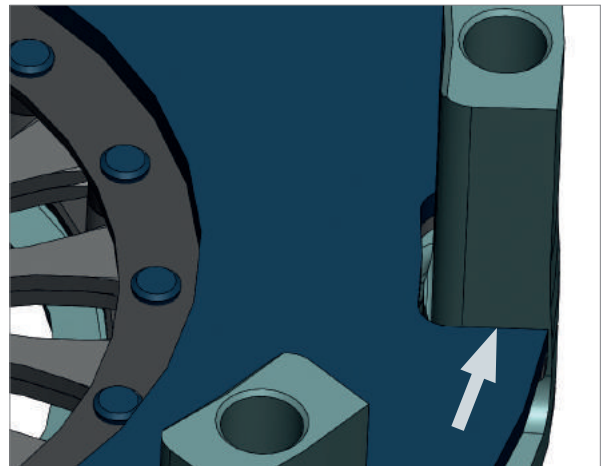

Figure 3.
- Carbon plate drive face wear should also be checked using feeler gauges. With the carbon floater plates in the clutch cover, measure the gap between the drive face and the clutch cover leg, (figure 3).